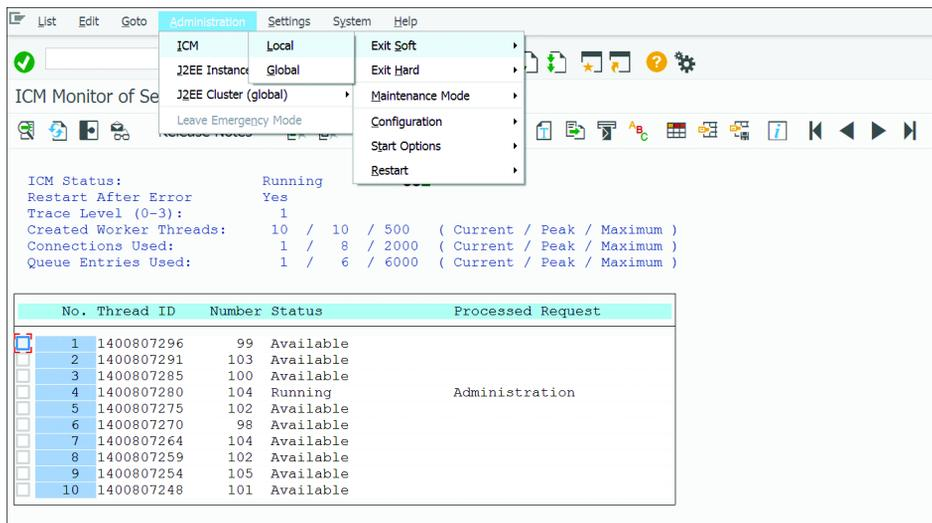

Figure 89 Restart ICM in Source System
16. Restart the ICM by logging on to the ABAP instance and going to Transaction SMICM. Select ADMINISTRATION • ICM • EXIT SOFT • LOCAL (see Figure 89). This will restart the ICM and cause it to no longer use the ports that the new Java instance will take over.